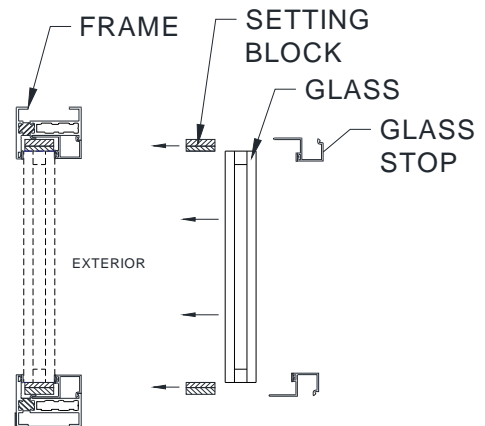

Figure 13:
Awning and Fixed: at 1/4 points into the top, bottom, and sides of the frame (Figure 13).
- Install glass to rest against the inner flange of the vent then install glass stops (Figure 13).